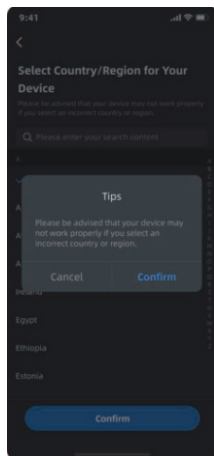

Figure 3
3) Figure 3: When prompted with "Select Country/Region for Your Device", click "Confirm" to go to the registration page.